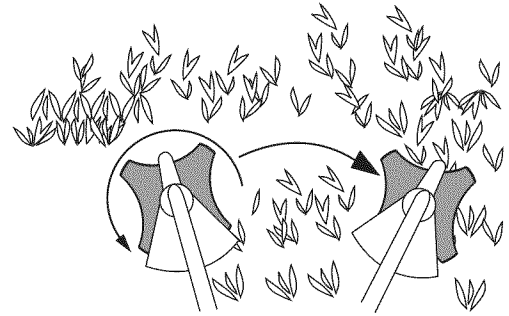

Fig. 15
- Cut from left to right (Fig. 15). This improves the unit's cutting efficiency and throws debris away from the operator. To prevent material wrapping around the blade, avoid cut debris on the return swing.